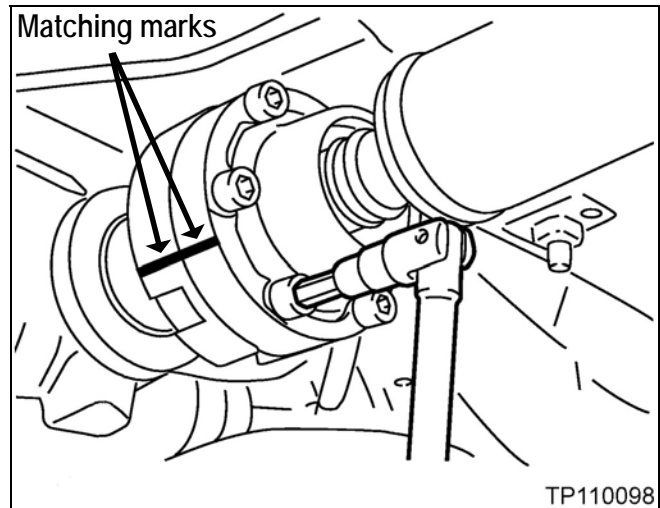

Figure 1
2. If not found, apply matching marks to the rebro joint and rear final drive (rear differential) companion flange as shown in Figure 1.